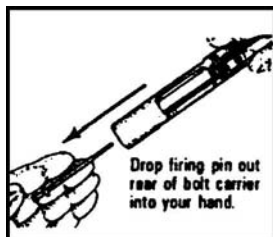

Figure 071-311-2025-14. Removing the firing pin
- m. Remove the bolt cam pin by turning it one-quarter turn and lifting it out (figure 071-311-2025-15).